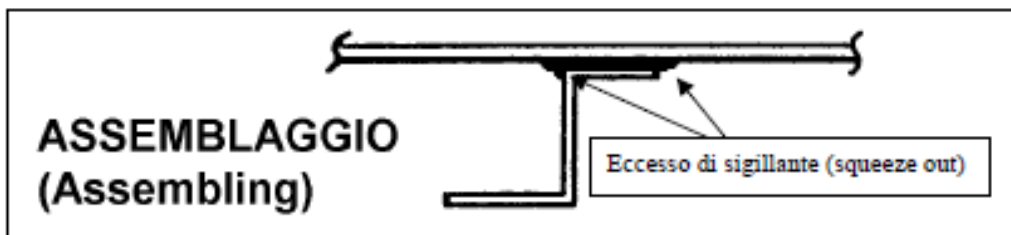
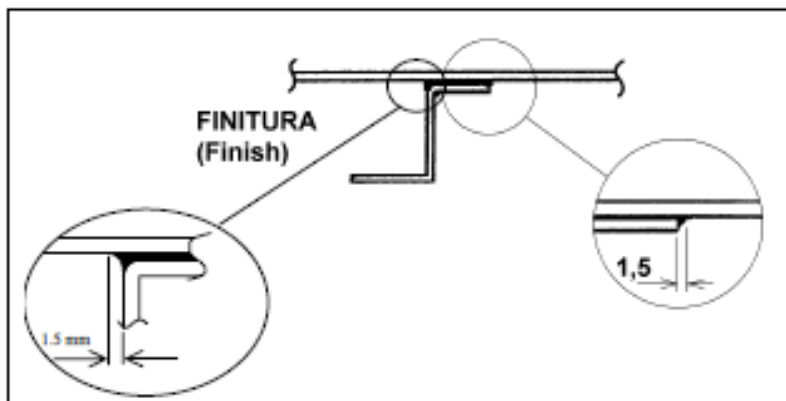

Fig. 3: Check that the squeeze out of sealant is uniform along the edge, visible and enough to allow the correct final finishing of the sealing.
Fig. 4: Final finishing of the sealing
- d) Exceeding sealant squeeze out from edge shall be visible and constant (Fig. 3 and Fig. 6); remove squeeze out sealant by means of a suitable plexiglass or wood spatula (Fig. 4 and Fig. 7).